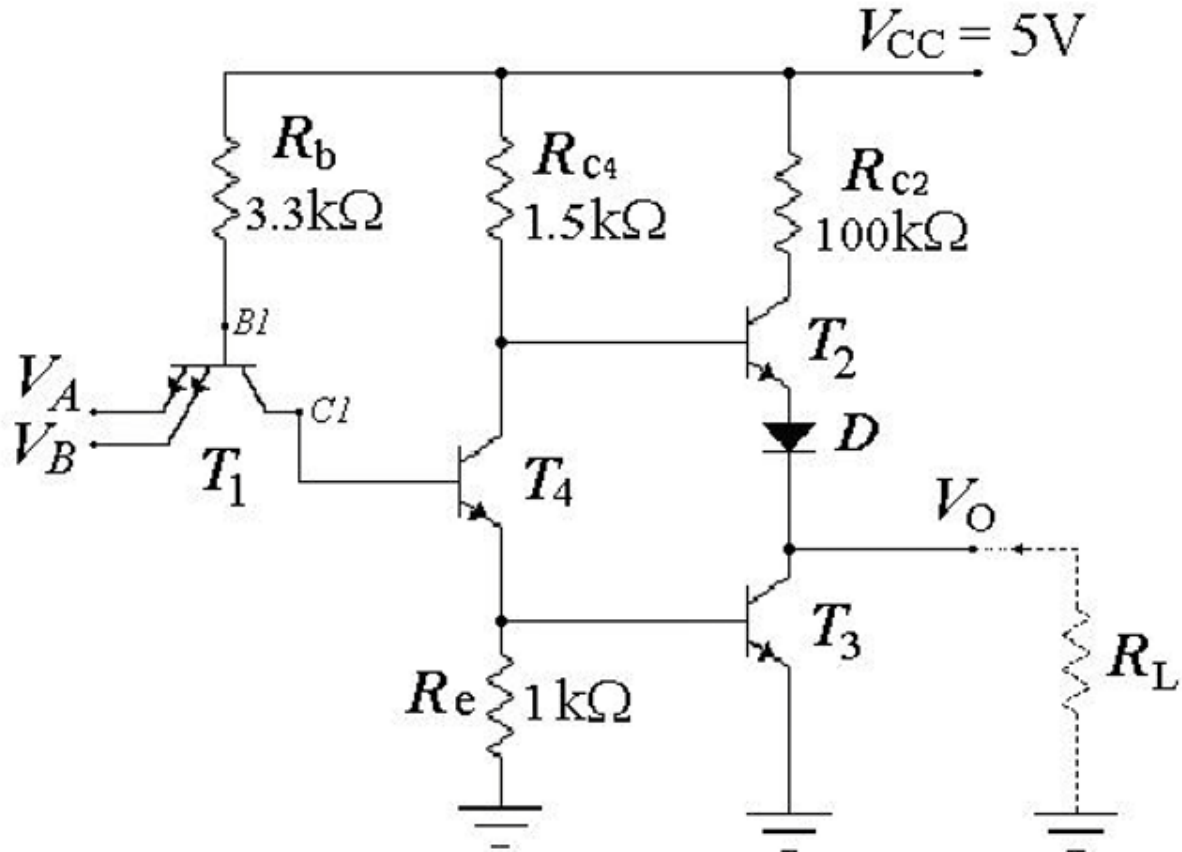

Figure 2 : TTL NAND gate using discrete components
1. Construct the circuit as shown in Figure 2. Adjust the dc supply to 5 volts.